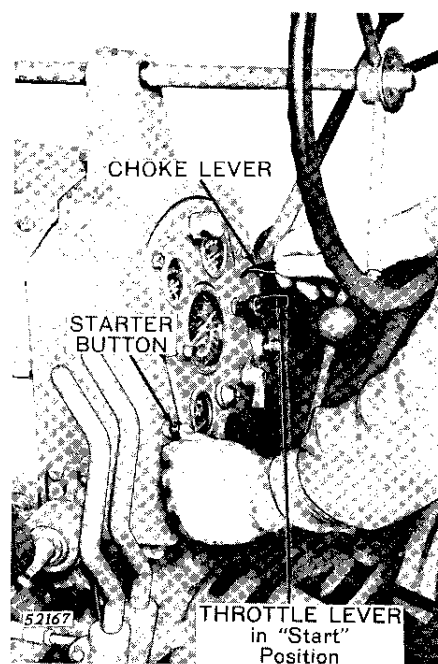

Figure 10-10-2—Operating the Choke Lever and Starter Button
- (4) Hold choke lever to the left. The cranking engine will not continue to run with the choke in this position; therefore, when engine starts, release the choke lever. It is not always necessary to choke the engine.
- (5) Push starter button to operate the cranking motor. Release button when engine begins to run (Figure 10-10-2).